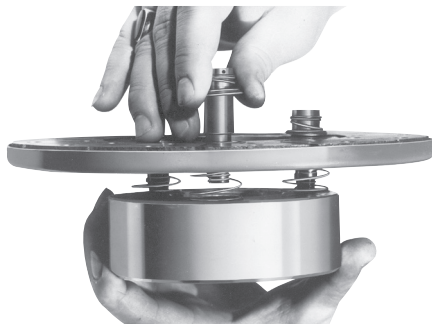

Figure 4
Step 3C: Insert the assembled drive pins with springs compressed through the armature, through the white springs and into threaded holes in the armature hub (Figure 4). Keep the armature segments oriented away from the hub and the armature hub tapered bore oriented to open away from the armature.